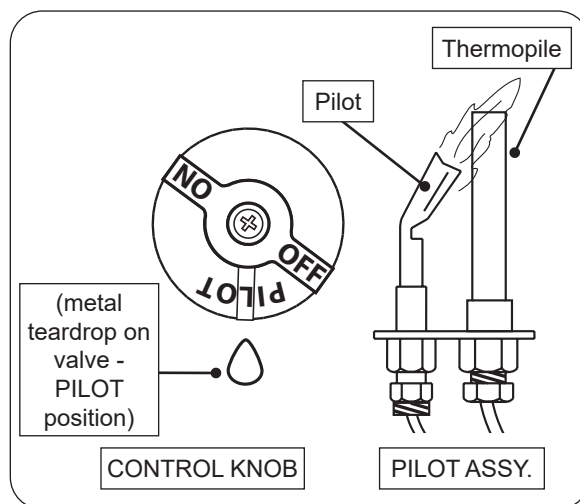

Fig. 27-1 Pilot lighting
3. Locate the pilot assembly on the side or rear of the burner pan (see Fig. 27-1).
4. Turn the control knob counterclockwise  to **PILOT**. Push the knob **firmly and fully** in and hold. Hold a lighted long-stem match/ long-necked butane lighter near the thermopile to light the pilot. Continue to hold the knob in for about one (1) minute after the pilot is lit. Release the knob and it will pop back out. The pilot will remain lit. See Fig. 27-1. If it goes out, repeat steps 2-4.